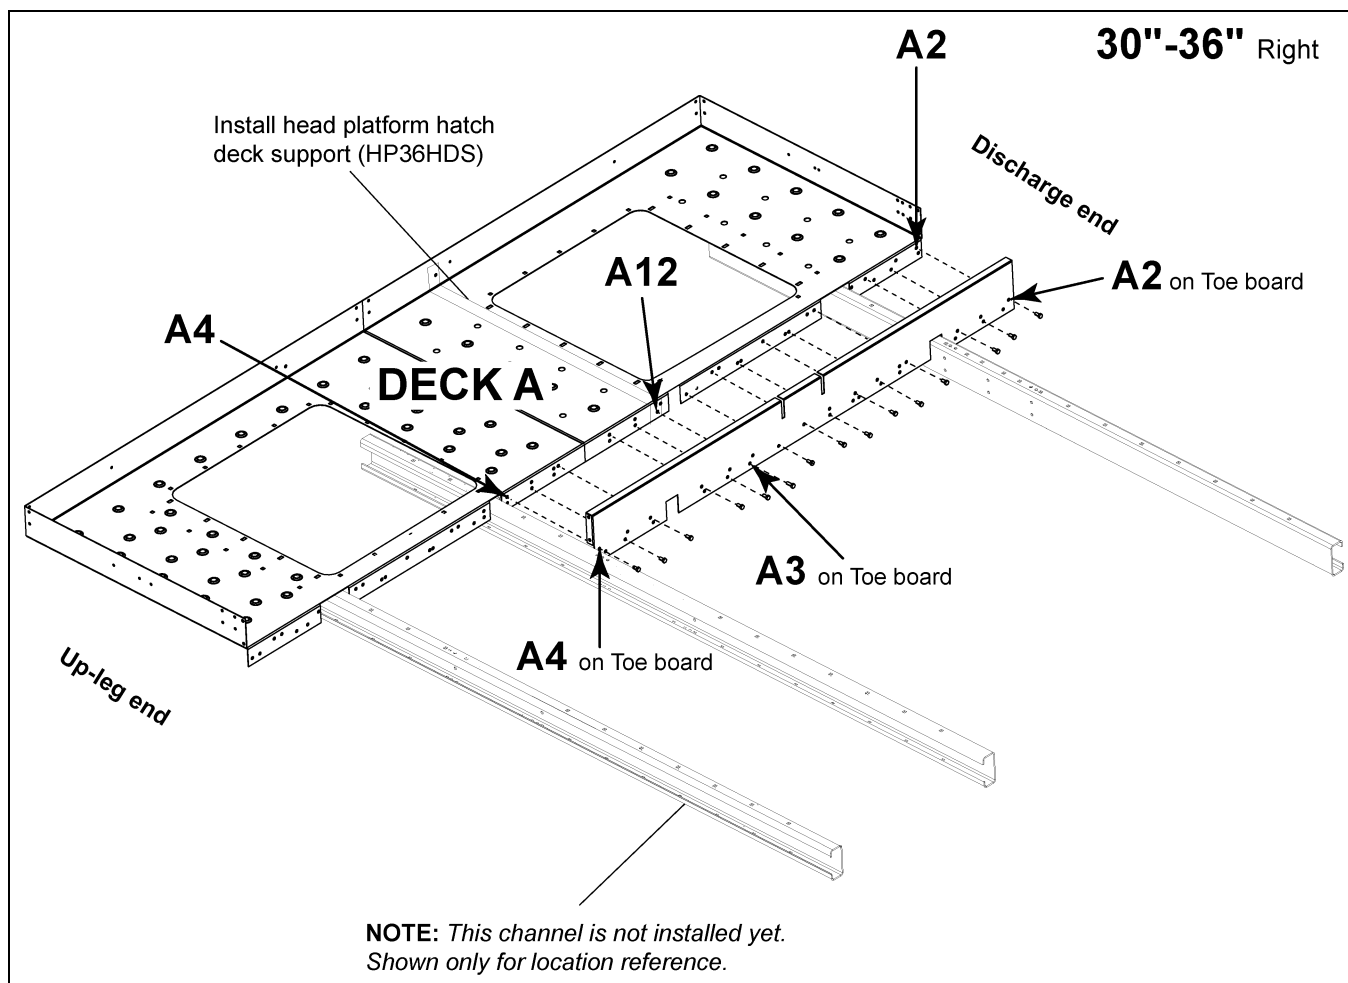

Figure 8I
- e. For both 30" and 36" - Deck hole **A2** to toe board hole **A2**. (See Figure 8I on Page 68.)
NOTE: At this time, the head platform hatch deck support (HP36HDS) should be installed **UNDER** Deck A. Line this up with hole **A12** on the deck flange near hatch opening and install at the same time attaching deck to toe board. (See Figure 8I on Page 68.)
- b. Deck hole **A4** to toe board hole **A4**. (See Figure 8I on Page 68.)